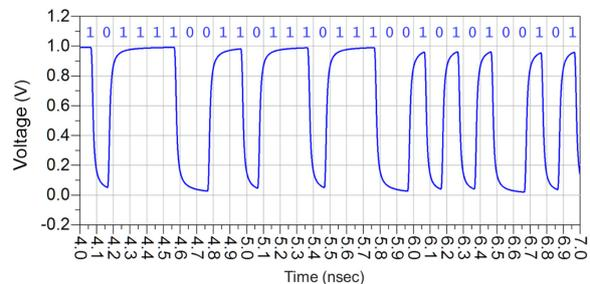

Figure 3. A 10 Gbps Pseudo-Random Binary Sequence (PRBS) sent from the transmitter to the receiver.
Figure 3 shows an example of PRBS running at the data rate of 10 Gbps (Gigabit per second). The data rate of the PRBS pattern conveys how fast data is transmitted. The inverse of the data rate is the unit interval (UI), which is the time duration of each bit. For a 10 Gbps data transfer rate, the time duration for each bit is 0.1 ns. In other words, a 10 Gbps signal has a 0.1 ns unit interval (UI).